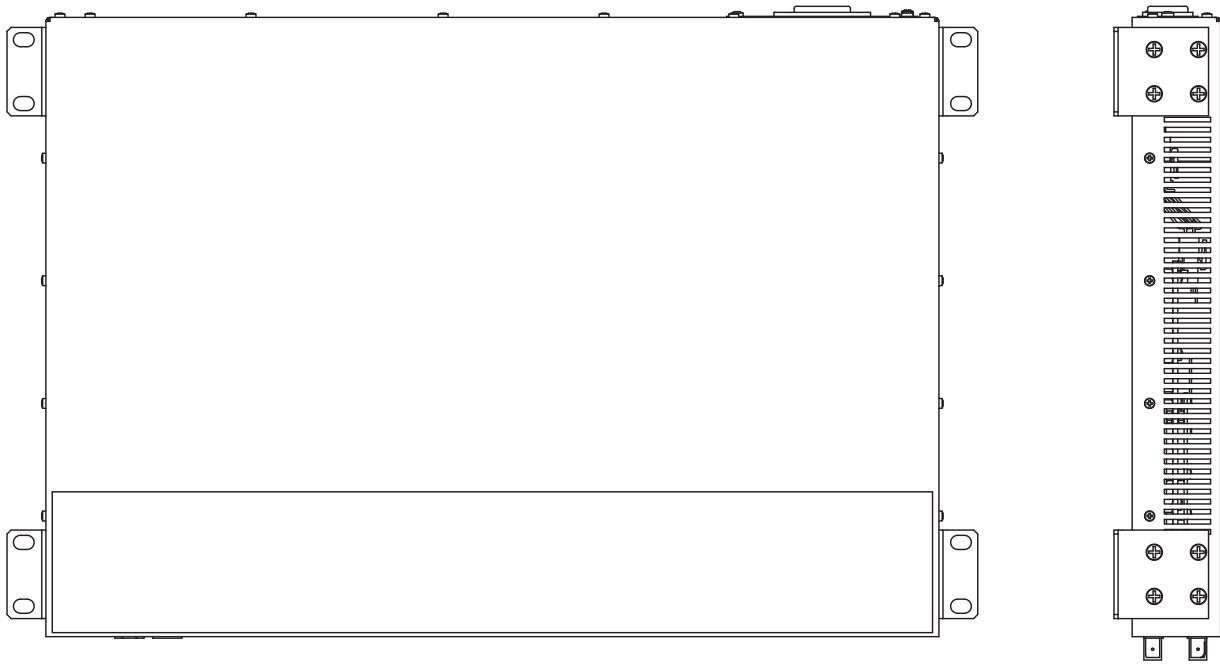

Figure 20: Mounting on a flat surface
- Move the 2 pre-installed mounting brackets on the front side into the position shown in figure 20.
(see figure 20)